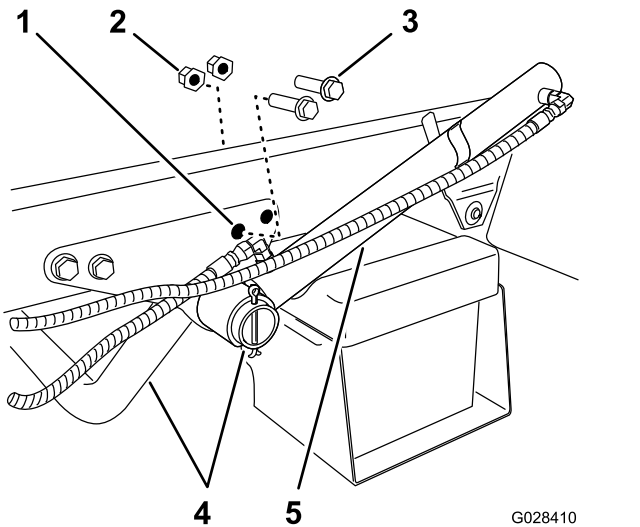

Figure 6
1. Remove the 2 rear flange-head bolts and 2 flange locknuts that secure the support bracket for the engine tube to the frame of the machine (Figure 6).
2. Rotate the lift cylinder to provide clearance to install the hold-down bracket for the tank skid (Figure 6).